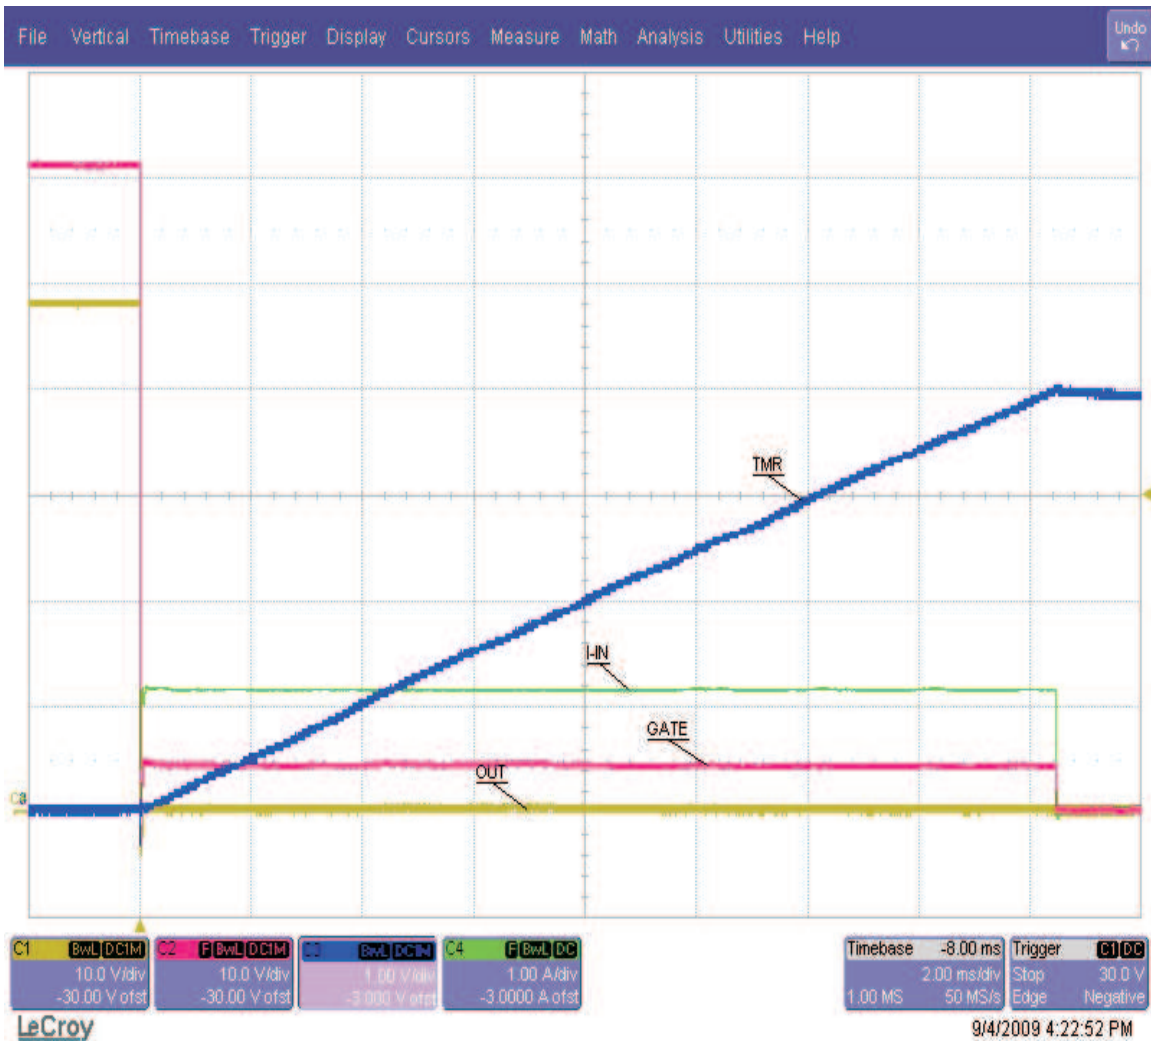

**Figure 13. Computation of the External FET Stress During Startup**
**Action of the Constant Power Engine (Figure 13)**
The calculated power dissipated in the external FET,  $V_{DS} \times I_D$ , is computed under the same startup conditions as Figure 12. The current of the external FET, labeled  $I_{IN}$ , initially rises to the value that satisfies the constant power engine; in this case it is  $54 \text{ W} / 48 \text{ V} = 1.1 \text{ A}$ . The 54-W value is programmed into the engine by setting the PROG voltage using Equation 1.  $V_{DS}$  of the external FET, which is calculated as  $V_{(SENSE-OUT)}$ , falls as  $C_O$  charges, thus allowing the the external FET drain current to increase. This is the result of the internal constant power engine adjusting the current limit reference to the GATE amplifier as  $C_O$  charges and  $V_{DS}$  falls. The calculated device power in Figure 13, labeled MOSFET POWER, is seen to be flat-topped and constant within the limitations of circuit tolerance and acquisition noise. A fixed current limit is implemented by clamping the constant power engine output to 50 mV when  $V_{DS}$  is low. This protection technique can be viewed as a specialized form of foldback limiting; the benefit over linear foldback is that it yields the maximum output current from a device over the full range of  $V_{DS}$  and still protects the device.